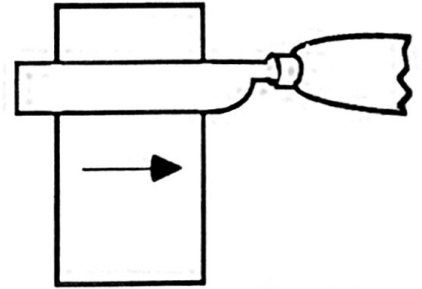

Figure 28: The Final Stroke (Step 9)
- a) Stroke shown in Fig. 28.
1. With the front of the knife flat on the stone as shown draw the knife to the right with one light pressure stroke to clean the dirt from the edge (Fig. 28).